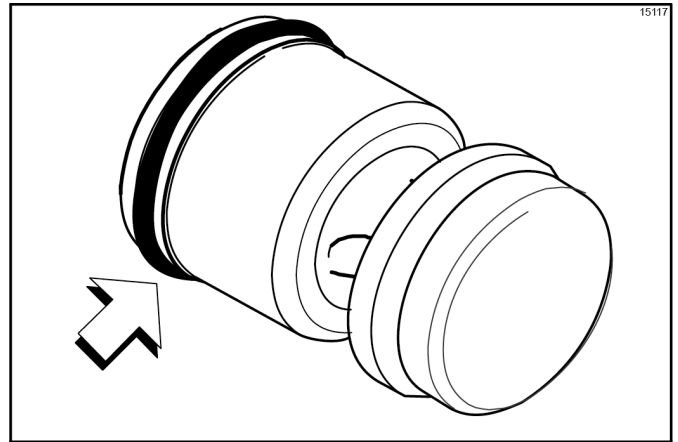

Figure 6-29
- Assemble the piston. Slide the red O-ring into the groove of the piston. **Do not** lubricate the O-ring. (See Figure 6-29.)